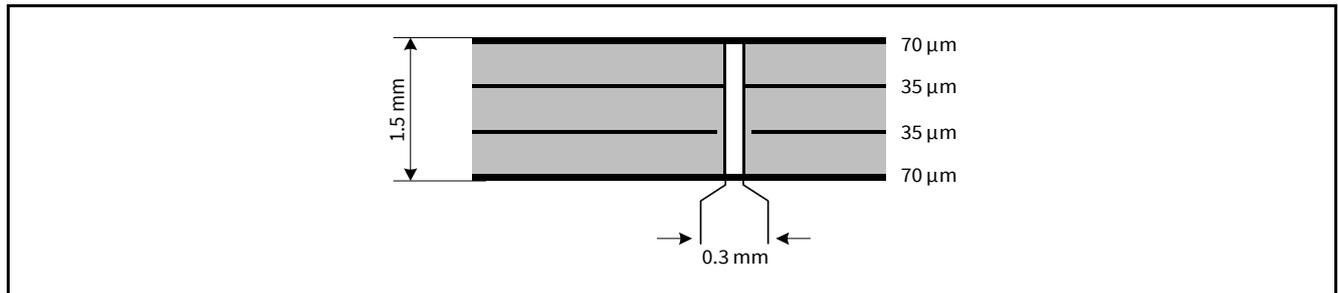

Figure 4 2s2p PCB Cross Section
- 2) Specified R_{thJA} value is according to JEDEC JESD51-2,-5,-7 at natural convection on FR4 2s2p board with 1 W power dissipation at $T_A=105^{\circ}C$; The product (chip + package) was simulated on a 76.4 x 114.3 x 1.5 mm board with 2 inner copper layers (2 x 7 μm Cu, 2 x 35 μm Cu). Where applicable, a thermal via array under the exposed pad contacts the first inner copper layer. Please refer to Figure 4